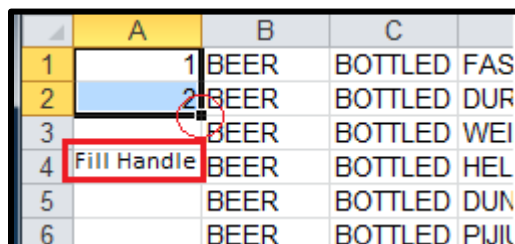

Figure 3 - Fill handle used in AutoFill
- Now use the **autofill** feature to insert number for all our products by highlighting both these cells **A1** and **A2** - use the fill handle and drag down to the end of the product list (see Figure 3 below)